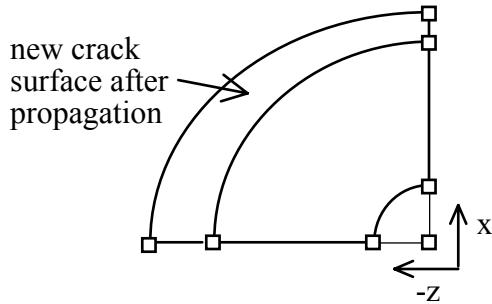

Figure 3.18. Propagated crack front.
Step 9: A dialog box is presented that allows you to specify whether you want to create the new crack front edge using the fitted points or the roughly calculated points. Leave the defaults unchanged and select **Accept** so that we use the fitted points. The edges and face are then automatically added to the model and these entities are torn to create the new crack surface (Figure 3.18).